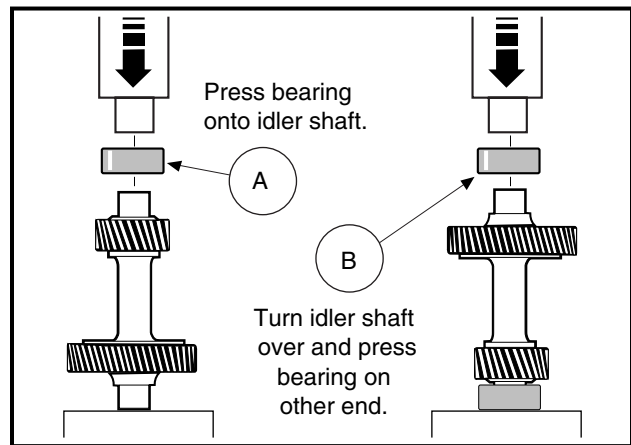

Figure 5-25 Idler Shaft
1. Press a new bearing (66) (**Figure 5-11, Page 5-7**) onto each end of the idler shaft (**Figure 5-25, Page 5-14**). See following **CAUTION**.